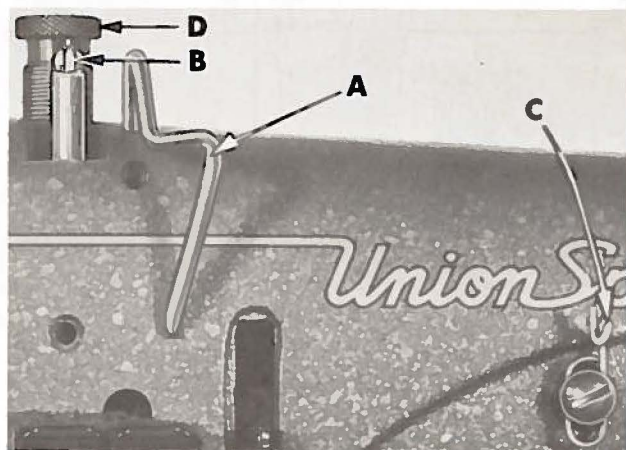

Fig. 13
Set the needle thread take-up wire (A, Fig. 13) so that its upper surface is even with the top of the hole in the needle bar thread eyelet (B) when the needle bar is at the bottom of its stroke. Lower this setting for a smaller needle thread loop or raise it for a larger loop.
Set the needle thread frame eyelet (C, Fig. 13) perpendicular to the machine base and midway in its mounting slot. Lower if more needle thread is desired in the stitch or raise for less.
Regulate the presser spring regulating screw (D, Fig. 13) so that it exerts only enough pressure on the presser foot to feed the work uniformly when a slight tension is placed on the fabric. Turning it clockwise increases the pressure, counterclockwise acts the reverse.